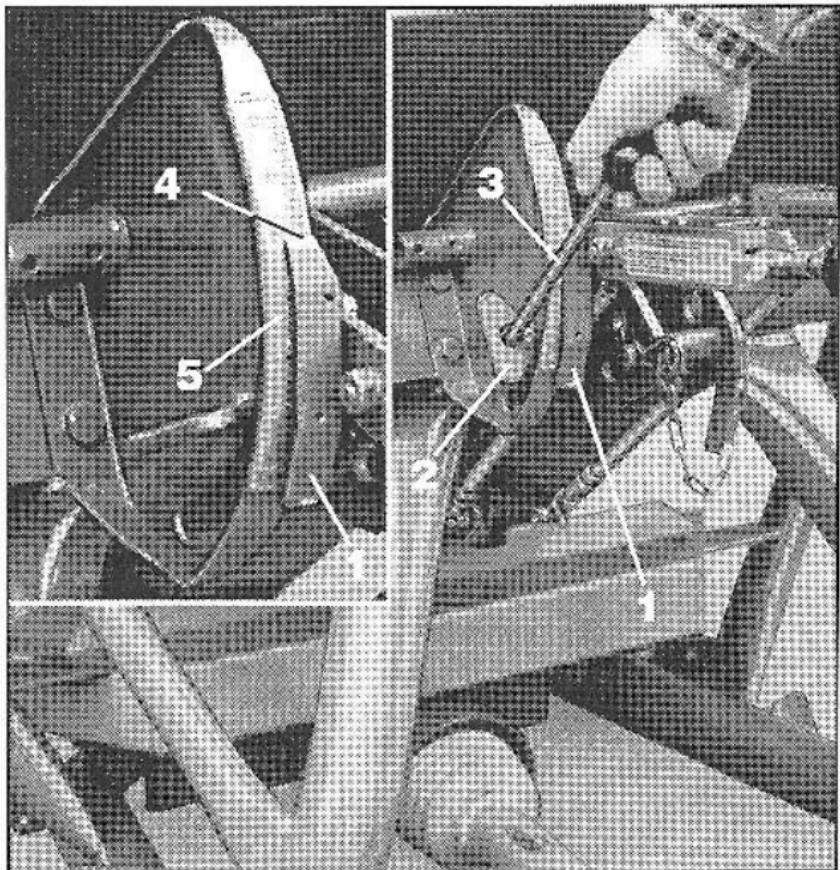

Fig. 7
The required shutter slide position is set at the stop (Fig.7/1) as follows:
- Slacken the clamping bolt (Fig. 7/2) with the aid of the lever extension rod (Fig. 7/3).
- Move the reading-off edge of the stop plate (Fig. 7/4) to that position of the scale (Fig. 7/5) which was taken from the setting chart.